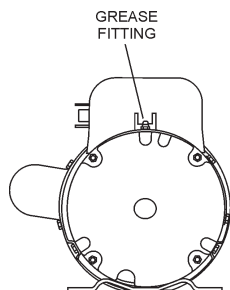

Figure 33. Grease Fittings Electric Motor
1. There are two grease (Figure 33) fittings at each end of the electric motor that will require lubrication. Lubricate these fittings about **every 16 months**.